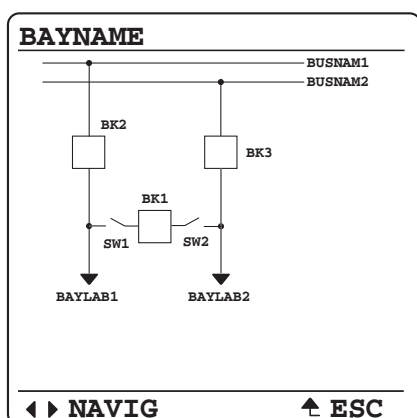
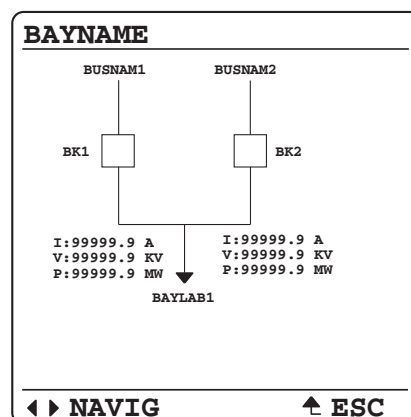

Figure 6 Breaker-and-a-Half
Figure 9 Source Transfer Bus
The SEL-401 bay control offers a variety of preconfigured one-line diagrams for common bus configurations. Once a one-line diagram is selected, the user has the ability to customize the names for all of the breakers, disconnect switches, and buses. Most one-line diagrams contain analog display points. These display points can be set to any of the available analog quantities with labels, units, and scaling. These values are updated in real-time along with the breakers and switch position to give instant status and complete control of a bay. *Figure 6* through *Figure 9* demonstrate some of the preconfigured bay arrangements available in the SEL-401.
*Figure 6–Figure 9* are examples of some of the selectable one-line diagrams in the SEL-401. The one-line diagram is selectable from the Bay settings. Additional settings for defining labels and analog quantities are also found in the Bay settings. One-line diagrams are composed of the following: